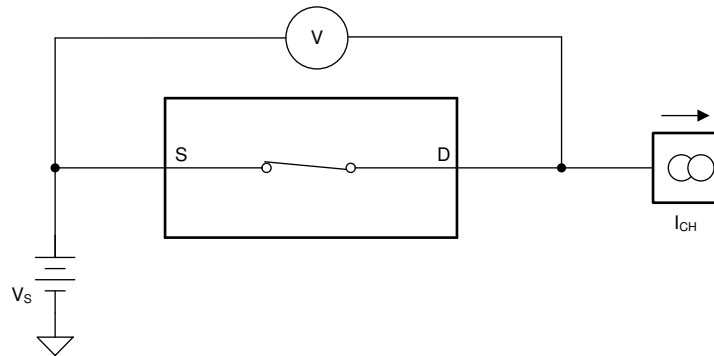

Figure 6-1. On-Resistance Measurement Setup
The on-resistance of the TMUX6136 is the ohmic resistance across the source (Sx) and drain (D) pins of the device. The on-resistance varies with input voltage and supply voltage. The symbol  $R_{ON}$  is used to denote on-resistance. The measurement setup used to measure  $R_{ON}$  is shown in Figure 6-1. Voltage (V) and current ( $I_{CH}$ ) are measured using this setup, and  $R_{ON}$  is computed as shown in Equation 1.